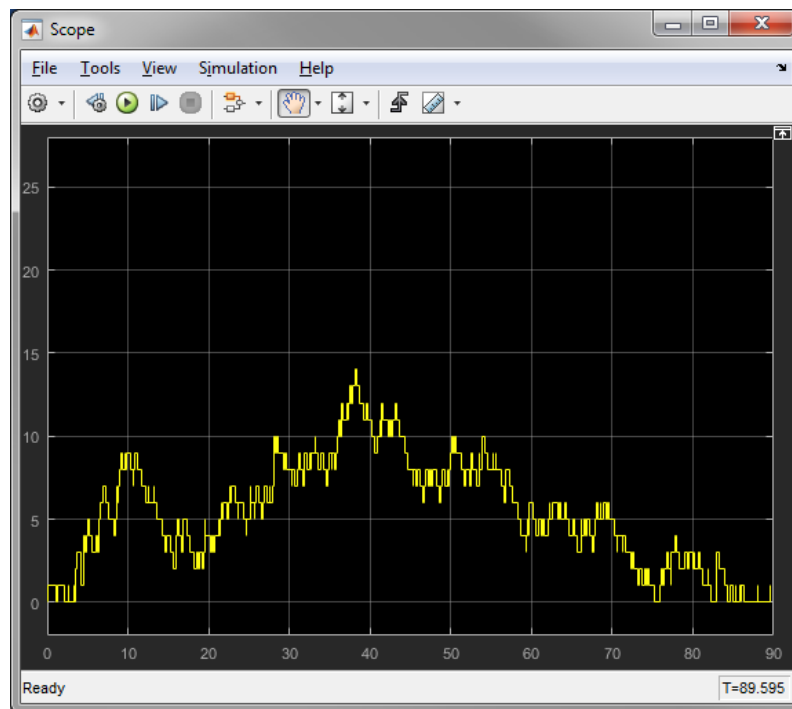

Figure 10: Exercise 3 queue length
6. Run the simulation and you should see the scope as shown in Figure 10. This scope displays the length of the queue during the simulation.